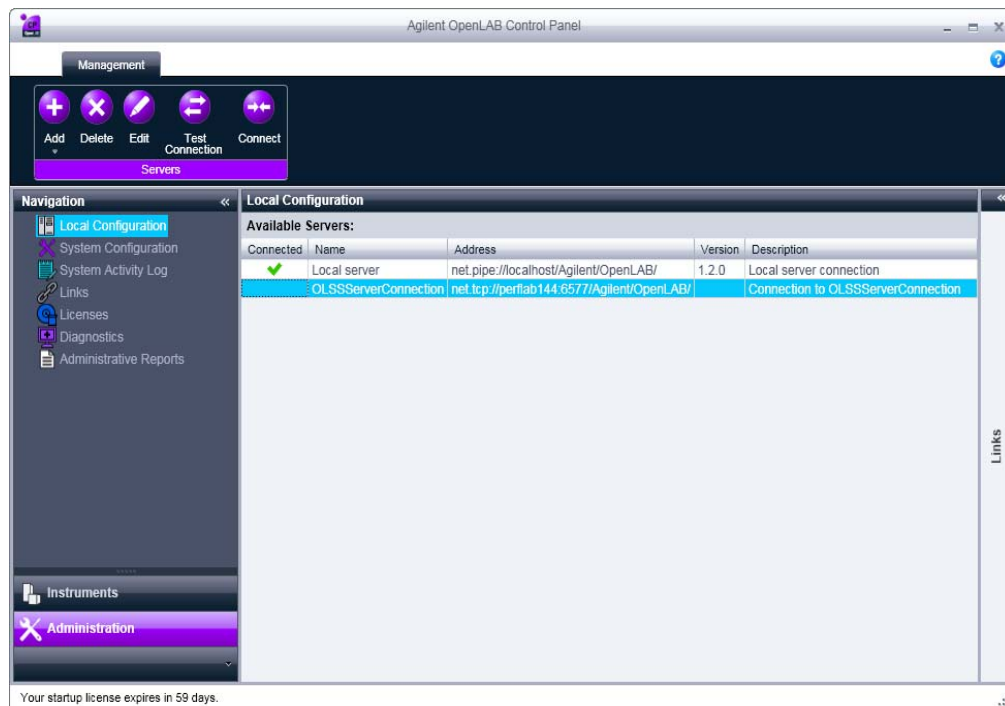

Figure 3 Reconnecting to the central OpenLAB Shared Services server
- 1 On the local OpenLAB Control Panel open the **Administration** page (see Figure 3 on page 8) and select the **Local Configuration** node in the **Navigation** pane.
- 2 Select the connection to the remote OpenLAB Shared Services server and click the **Connect** button in the ribbon (see Figure 3 on page 8).